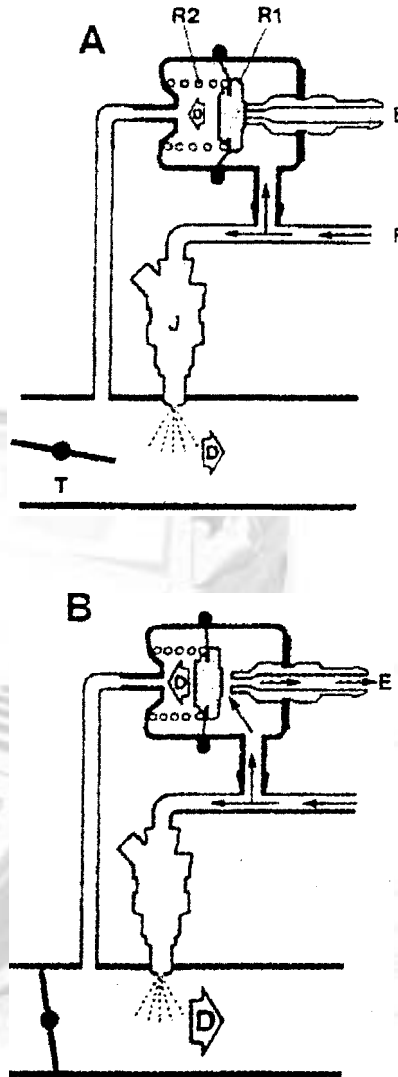

Fig.2.2 Fuel Pressure Regulator
The pressure regulator is fitted in the excess fuel return pipe (E), close to the injector fuel rail with its fuel supply (F) as seen in Fig.2.2. It has two chambers separated by a diaphragm (R1); one chamber contains fuel from the supply line (F), the other is linked by a pipe to the